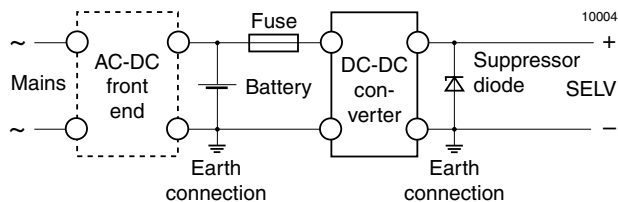

Fig. 22
- ⁴ Each suppressor diode should be dimensioned in such a way, that in the case of an insulation fault the diode is able to limit the output voltage to SELV (<60 V) until the input fuse blows (see fig.22: *Schematic safety concept*).